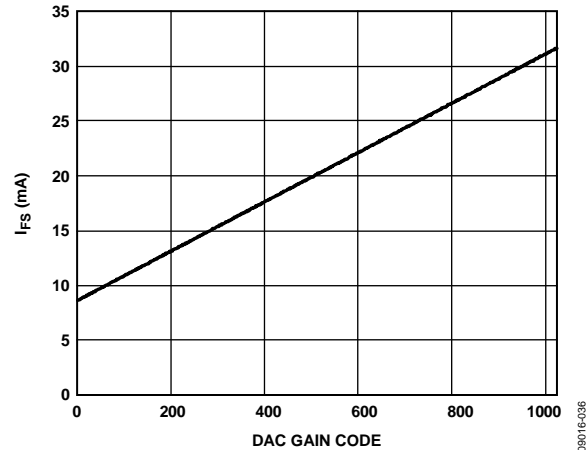

Figure 67. DAC Full-Scale Current vs. DAC Gain Code
For nominal values of  $V_{REF}$  (1.2 V),  $R_{SET}$  (10 kΩ), and DAC gain (512), the full-scale current of the DAC is typically 20.16 mA. The DAC full-scale current can be adjusted from 8.66 mA to 31.66 mA by setting the DAC gain code, as shown in Figure 67.